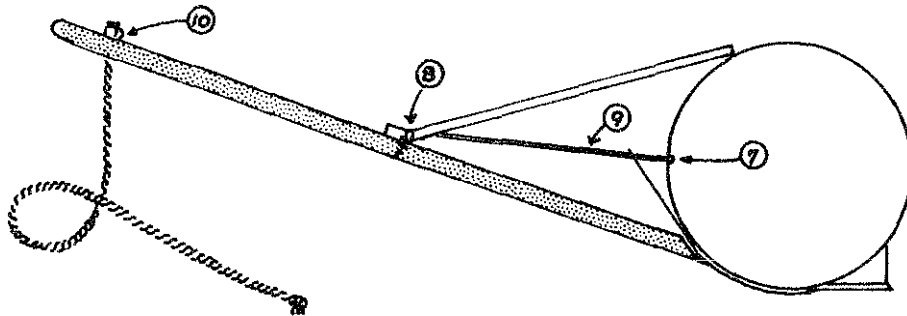

**FIGURE 7 INSTALLING THE HANDLE AND HANDLE BRACE**
**Install** the handle and handle brace (Figure 7):